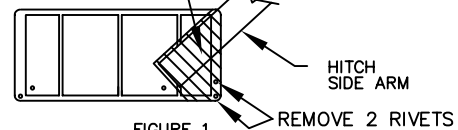

FIGURE 1
1. REMOVE TWO (2) 8mm BOLTS FROM INBOARD LOWER CORNERS WHICH ATTACH BUMPER BRACKETS TO VEHICLE FRAME. ENLARGE HOLES WITH 1/2 DRILL BIT
3. REMOVE THE TWO (2) REARMOST EXHAUST HEAT SHIELD RIVETS. RAISE HITCH UP INTO POSITION AND TRIM HEAT SHIELD AS SHOWN IN FIGURE 1.